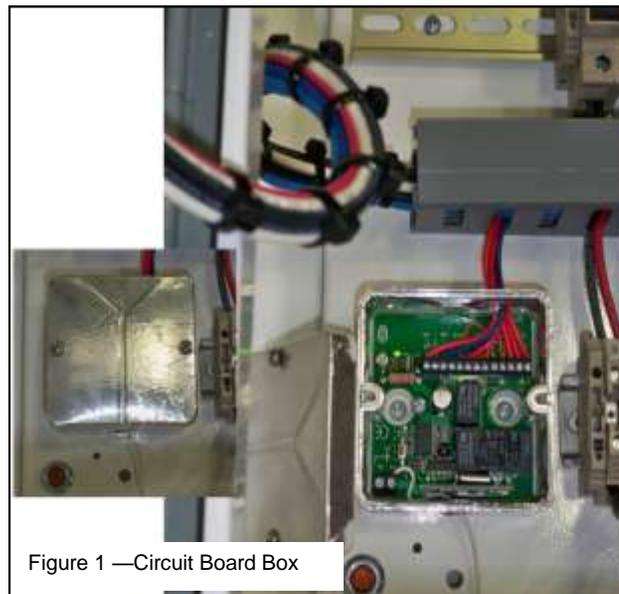

Figure 1 —Circuit Board Box
**Refer to Figure 1 - Circuit Board Box**